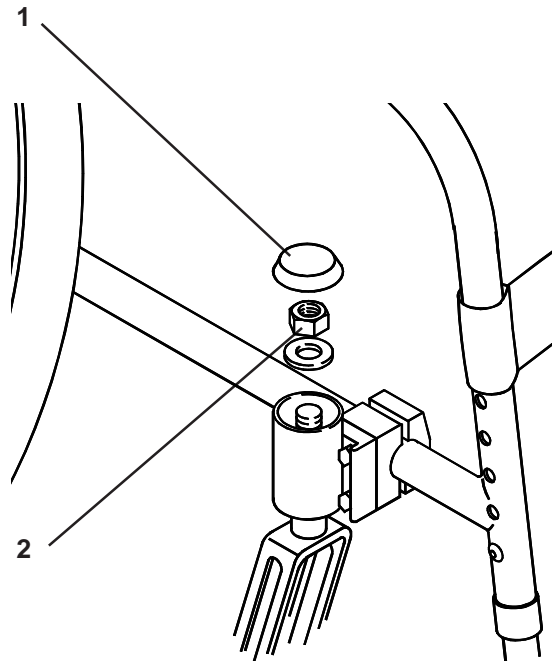

Fig. 34
To remove play from the castor stem (Fig. 34), remove the dust cover (1) by gently levering it up. Tighten nut (2) with a 19mm A/F socket spanner until all play is removed, yet still allows the castor to rotate freely. Replace the dust cover by snapping it back in place.